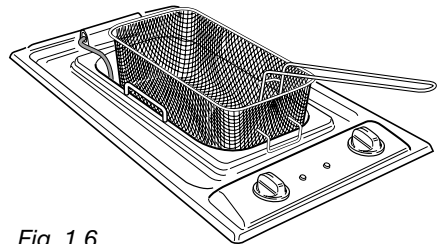

Fig. 1.6
- As soon as the food is cooked, take out the basket and rest it on the support until all the excess oil has drained off (fig. 1.6).